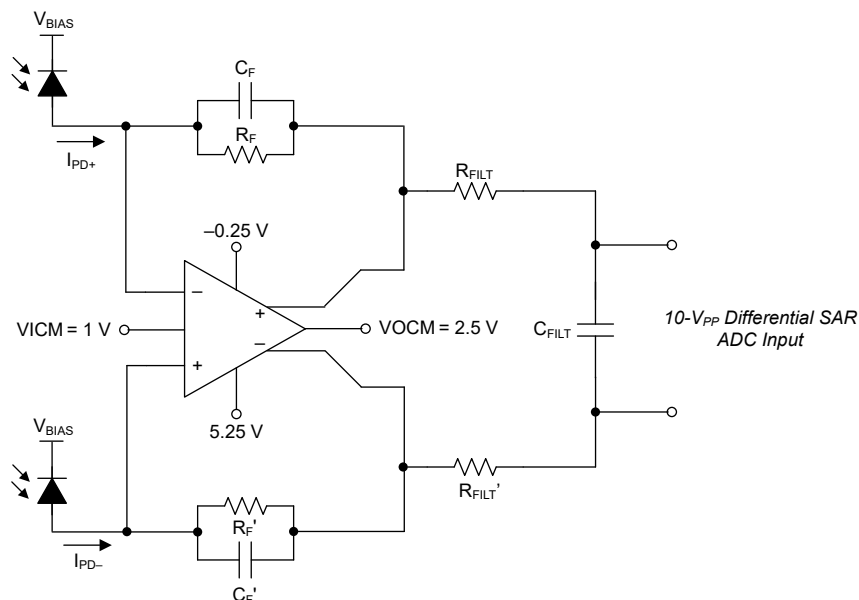
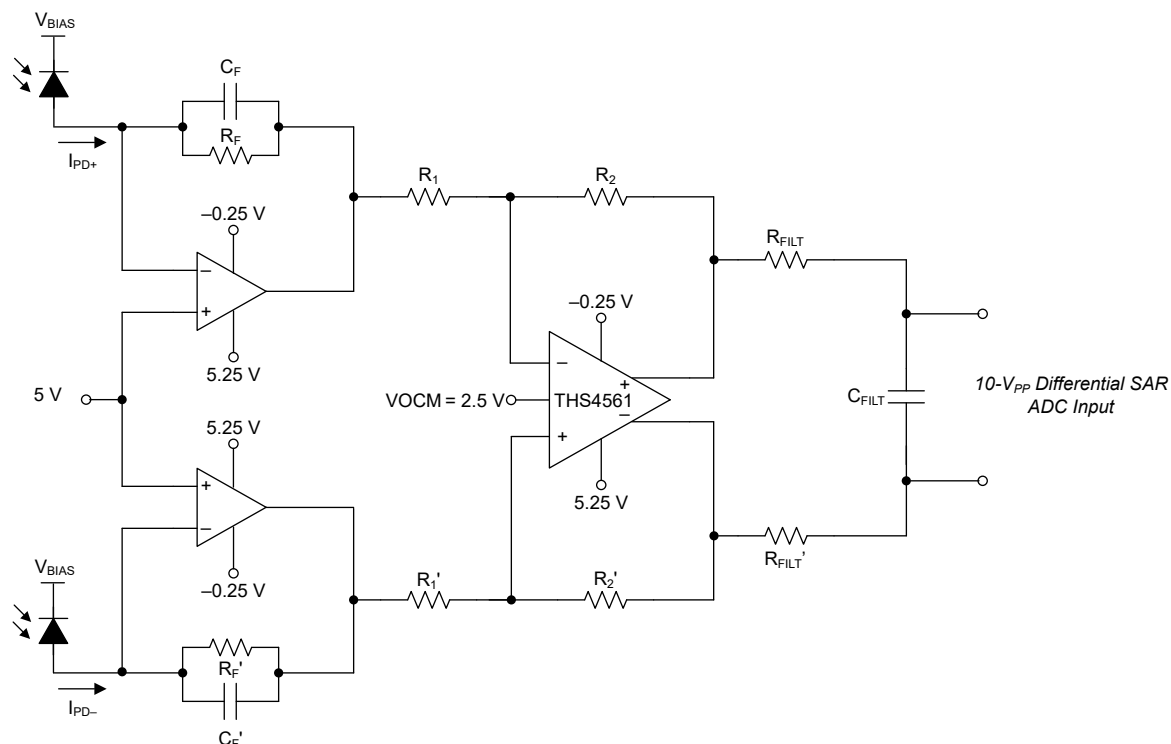
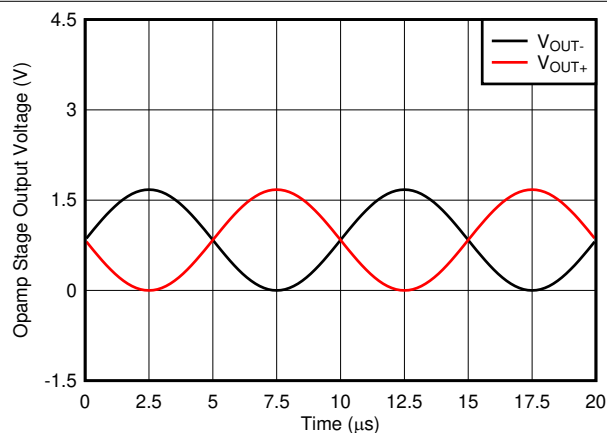

Figure 8-2. THS4567 with Integrated Differential TIA + ADC Driver
Figure 8-3. Discrete Differential Op Amp TIA + 2nd Stage ADC Driver
Figure 8-6. Output of the 1st Stage Discrete Op Amp Transimpedance Amplifier (OPA Mode)
The primary use case for the THS4567 input common-mode loop is in differential transimpedance applications that have a large common-mode offset due to ambient light. In this section we compare the performance of the THS4567 device with the input common-mode loop enabled (TIA mode) as shown in Figure 8-2 versus a differential TIA implementation built using two discrete op amp channels (OPA mode) as shown in Figure 8-3.
- With the photodiodes (PDs) configured with a cathode bias as shown in Figure 8-2 both PDs will source current when light is incident on them. To maximize the reverse bias across the PD, V_{BIAS} is typically set to the amplifiers positive supply voltage or the highest available positive supply voltage.
The OPA mode configuration is shown in Figure 8-3. This configuration results in a reverse bias of $(5.25\text{ V} - 5\text{ V}) = 0.25\text{ V}$ across the PD thereby greatly increasing the PD capacitance compared to the TIA mode.
Figure 8-6 shows the output of the first stage transimpedance amplifier setup shown in Figure 8-3. The output common-mode is centered on 0.83 V . The offset in the common-mode is caused by the offset due to the ambient light. More importantly the differential output swing is only 3.33 V . To maximize the ADC dynamic range the subsequent THS4561 differential amplifier stage is configured in a signal gain of 3 V/V . The THS4561 device will also perform a level shift to center the output common-mode to 2.5 V .